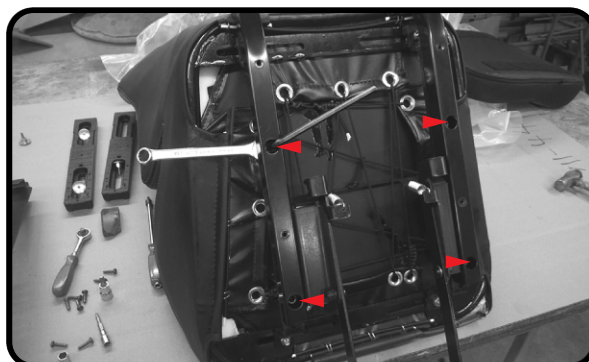

figure 8
STEP 10 Re-install stock frame. Place frame onto your Force-1 seat so the frame is just contacting the back edge, and secure with four 5/16 x 1 socket-head cap screws along with washers and Nyloc nuts. **NOTE:** prior to tightening, shift the frame back slightly to reduce contact with seat cover (figure 8).